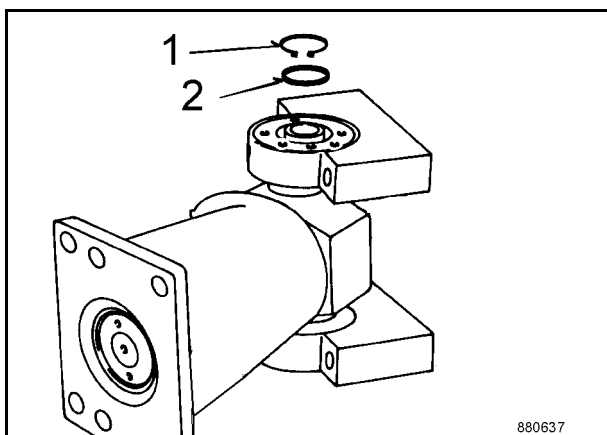

Fig. 17
25. Assemble circlip 1 (Fig. 17) and supporting discs (2).